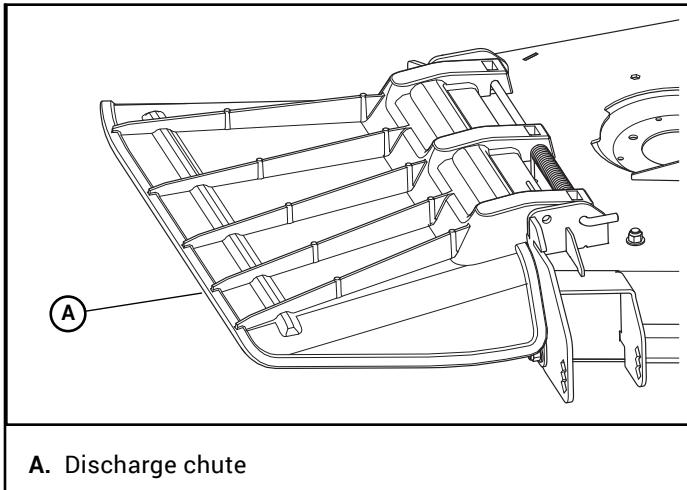

Figure 3-23
32. Remove the discharge chute. Retain the discharge chute and hardware for reinstalling if the catcher is removed. Figure 3-23